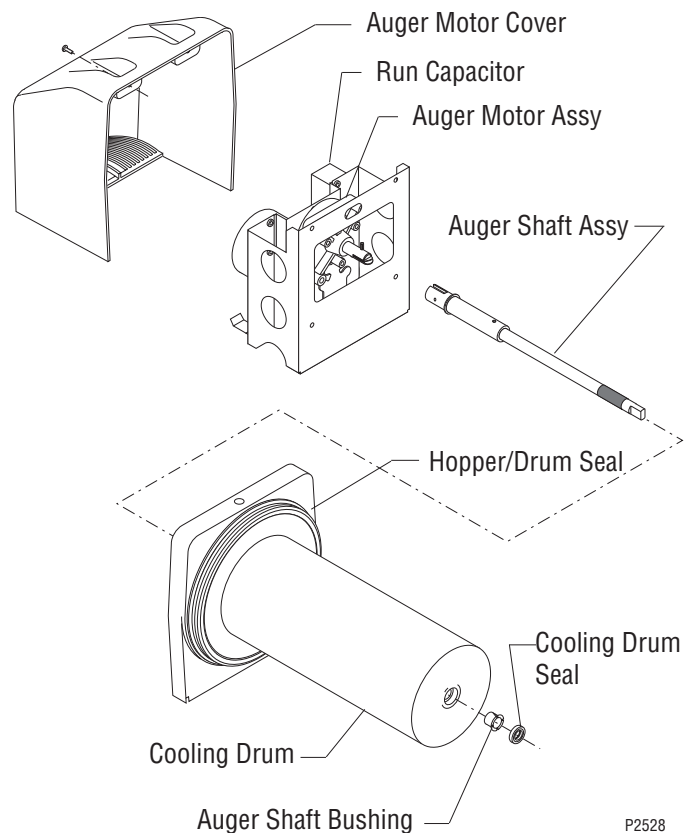

FIG 1
9. Refer to FIG 1, and slip new blue bushing into cooling drum.
15. Refer to the hopper assembly and installation procedures. Install new hopper/drum seals and faucet seals included in the kit. See FIG 1 & 5.